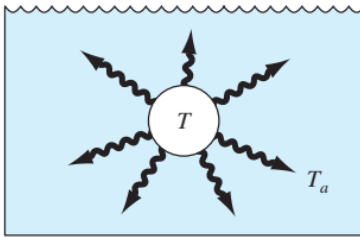

FIGURE P21.28
21.28 The rate of cooling of a body (Fig. P21.28) can be expressed as